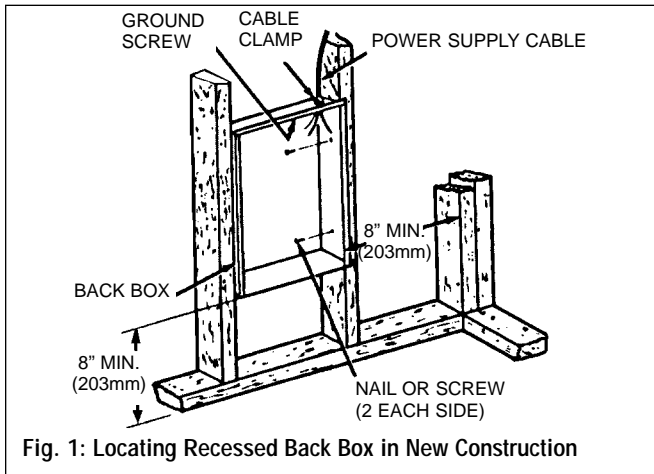

Fig. 1: Locating Recessed Back Box in New Construction
1. Mounting Back Box (See Figure 1).
- c. Secure the back box in position with wood screws or nails as shown in Figure 1.
2. Power Supply Wiring (See Figure 1).